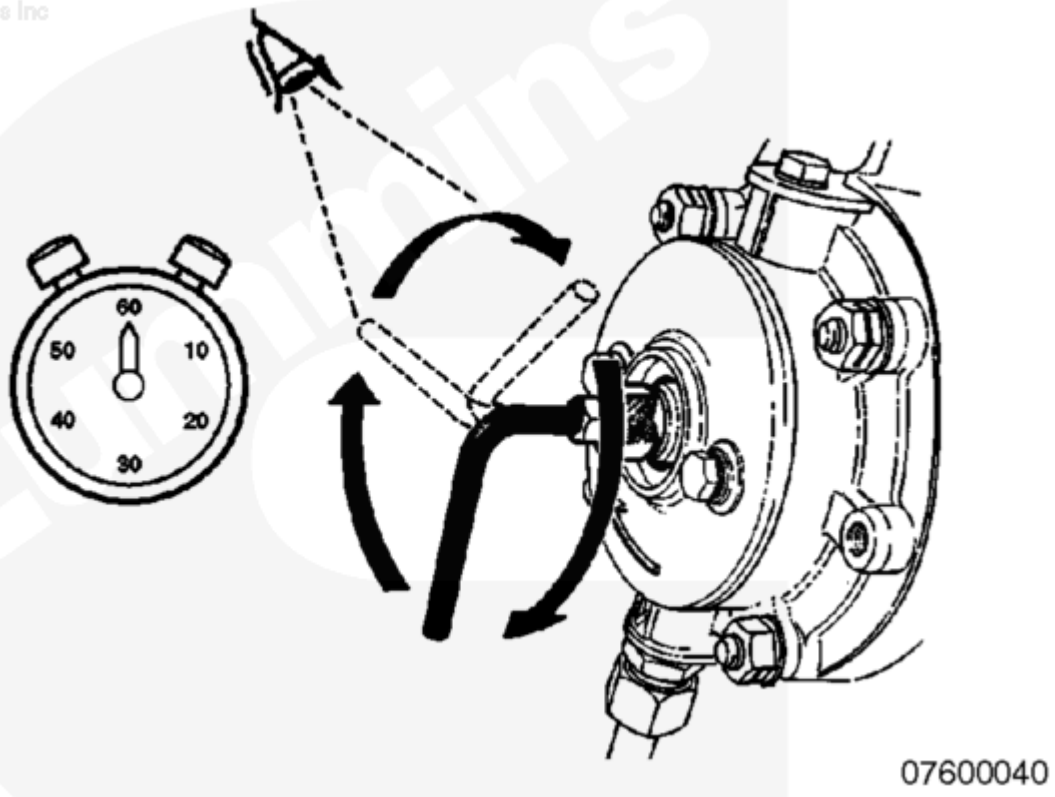

Figure 2
When correctly installed and initial start-up performed, the Eliminator™ Filter requires very little attention. However, to provide continued reliable operation, the Eliminator filter hydraulic motor **must** be checked at regular intervals. See Figure 2 below.
Check the number of minutes for one revolution of the operating indicator and mark this value - Delta Time (Figure 2).
- The number of minutes for one revolution is **not** more than 1 minute above the delta time. (Figure 2)